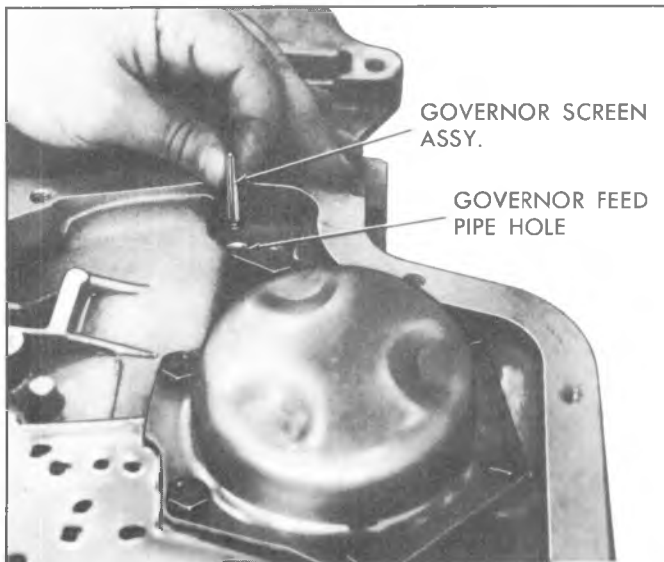

Fig. 7A-15C--Governor Screen Position
4. Remove control valve body assembly and governor pipes. If care is taken in removing control valve body the six (6) check balls will stay in place above the spacer plate.
5. Remove the governor screen assembly from end of governor feed pipe or from the governor feed pipe hole in the case (Fig. 7A-15C). Clean governor screen in clean solvent and air dry.